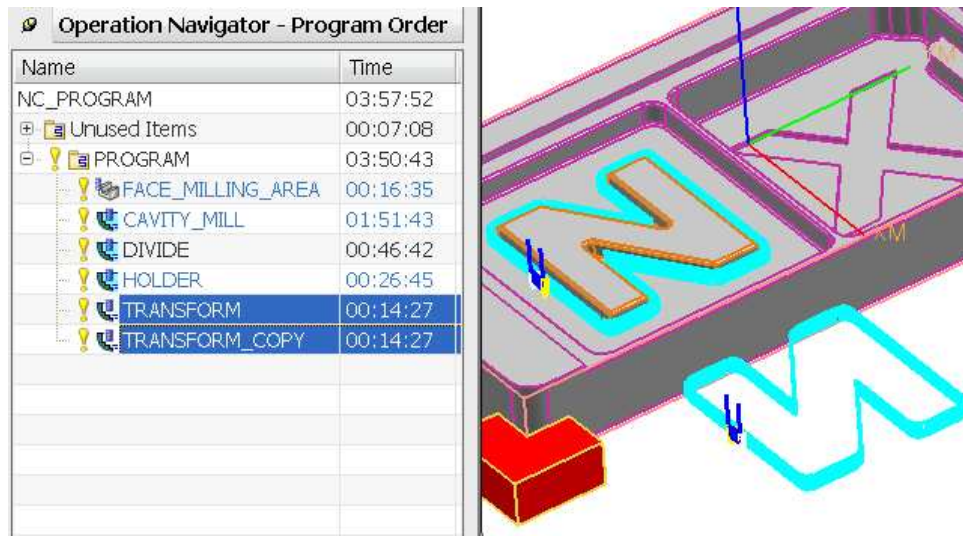

Figure 8.14. Post-reflection view of the tool path
54. In the *Operation Navigator* dialog box, the next tool path with *_COPY* reference will appear — e.g. as in figure 8.14.